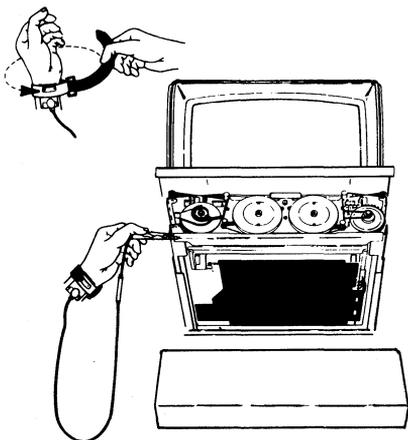

Fig. 8—346392 Static Discharge Strap
- 4.02 The 346392 static discharge strap must be worn when handling the printer card outside its protective bag. Attach the strap tightly to wrist as shown in Fig. 8. Attach clip end of static discharge strap to frame ground.